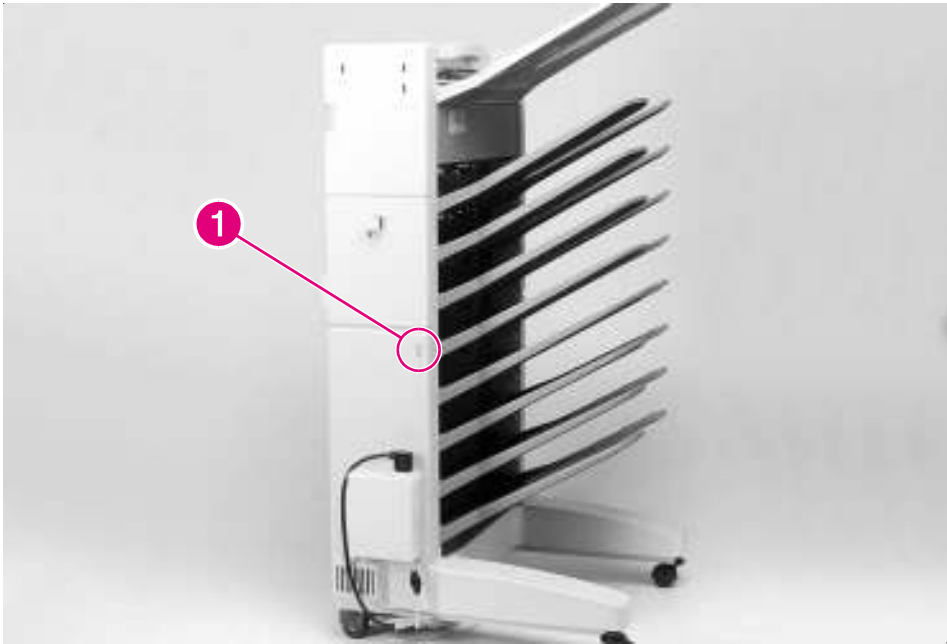

Figure 6-174 8-bin Mailbox Diagnostic LED PCA (1 of 2)
- 1 Locate the Diagnostic LED that is on the back side of the 8-bin Mailbox (Figure 6-174, callout 1).